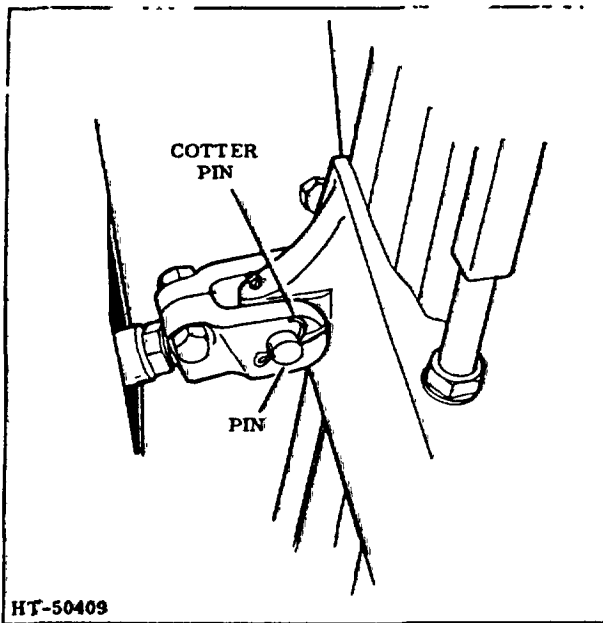

Figure 7. Tilt Cylinder Yoke
2. Remove cotter pin and yoke pin (Figure 7).